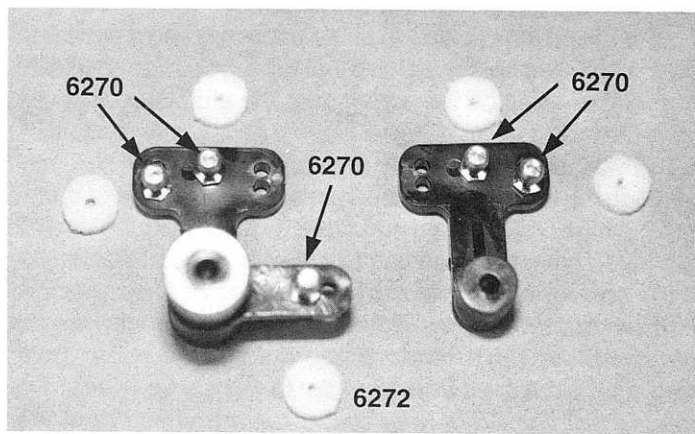

Fig. 27
□ **Fig. 27** Now we need to go back to bag #8-14 and remove five #6270 short ball ends and five #6272 foam ball end dust covers. Layout the left servo saver arm assembly and the right bellcrank as shown in the photo. Now we need to thread the five ball ends into the servo saver and bellcrank. After all of the ball ends are installed you can then push the #6272 foam dust covers over the ball ends. **Note: You do not need to install nuts on the bottom of these five ball ends.**